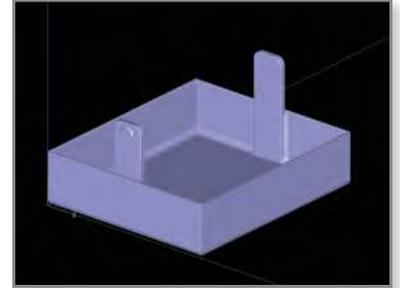

Figure 7: Model shown oriented for minimum Z height.
STEP 3: Identify the orientation that minimizes the Z height and will also require the least support material (Figure 7).